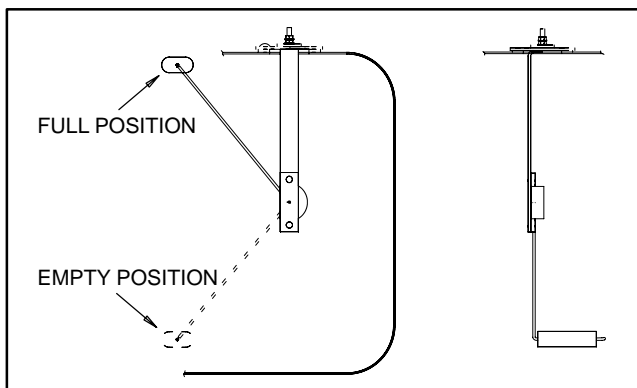

Figure 45
6. Check resistance of the sender with a multimeter (Fig. 45).